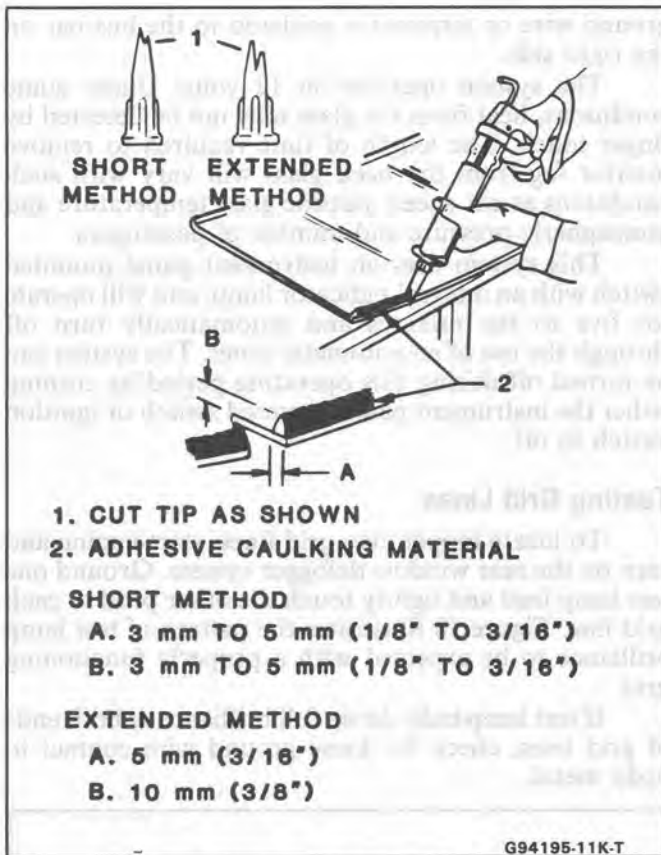

Fig. 7-Applying Adhesive Material
**Prep and Sealing (Figure 7)**
4. Apply smooth continuous bead of adhesive over inside edge of glass where primed (Fig. 7). Tip bead of adhesive slightly inboard.
3. Enlarge nozzle furnished in kit as shown in (Figure 7).
7. Apply a smooth continuous bead of adhesive 10 mm (3/8") high by 5 mm (3/16") wide completely around inside edge of glass (Fig. 7). Tip bead of adhesive slightly inboard.